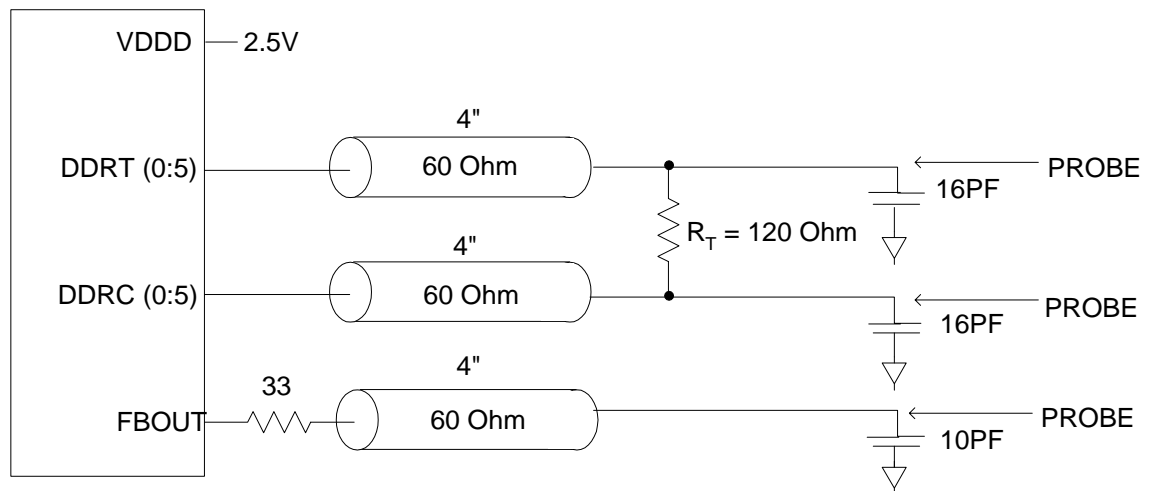

Figure 1. Differential Signal Using Direct Termination Resistor
- Differential input signal voltage specifies the differential voltage $|V_{TR} - V_{CP}|$ required for switching, where V_{TR} is the true input level and V_{CP} is the complementary input level. See Figure 1. **AUTHOR: NO CORRESPONDING FOOTNOTE IN THE TEXT.**
- For load conditions, see Figure 1.
- The value of V_{OC} is expected to be $|V_{TR} + V_{CP}|/2$. In case of each clock directly terminated by a 120 Ω resistor. See Figure 1.
- All outputs switching loaded with 16 pF in 60 Ω environment. See Figure 1.